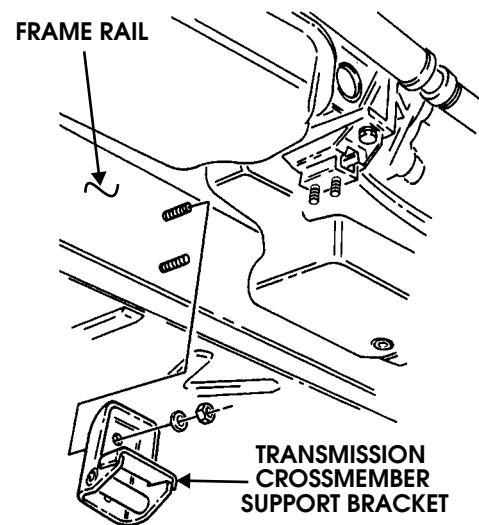

Figure 9-142: Transmission Crossmember Support Bracket Replacement
2. Remove two locknuts and washers securing transmission crossmember support bracket to frame rail (Figure 9-142).
1. Install transmission crossmember support bracket on two bolts and frame rail with two washers and locknuts. Tighten locknuts to 90 lb-ft (122 N•m) (Figure 9-142).